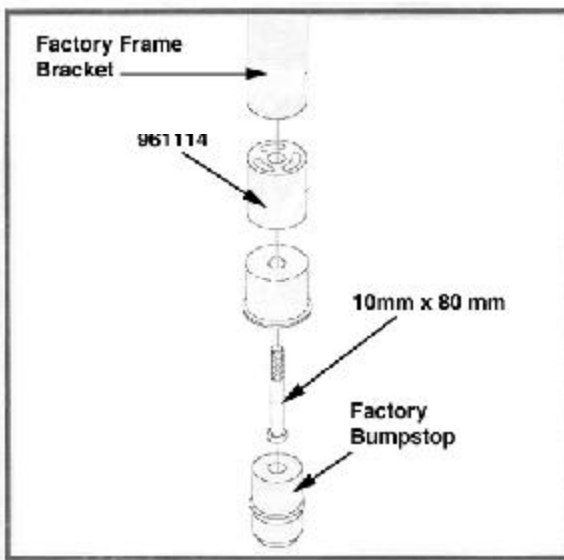

Fig. 5
- a. Install the TM bumpstop extensions (961114) and the OE bumpstop cups using (1) 10mm X 80mm coarse threaded bolt as shown in **Fig. 5**.